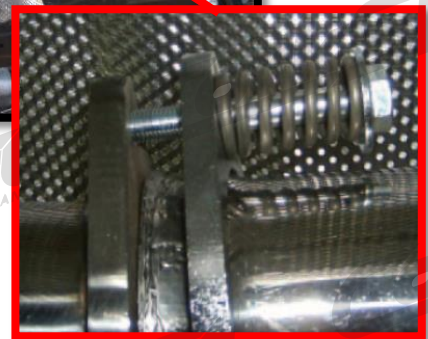

Figure 4b
- c) Attach the mid-pipe section to the axle-back section using the supplied gasket and hardware (Figure 4b).
b) Tighten the cat-back section to the downpipe. Using the supplied hardware and re-use the downpipe gasket (Figure 4b).